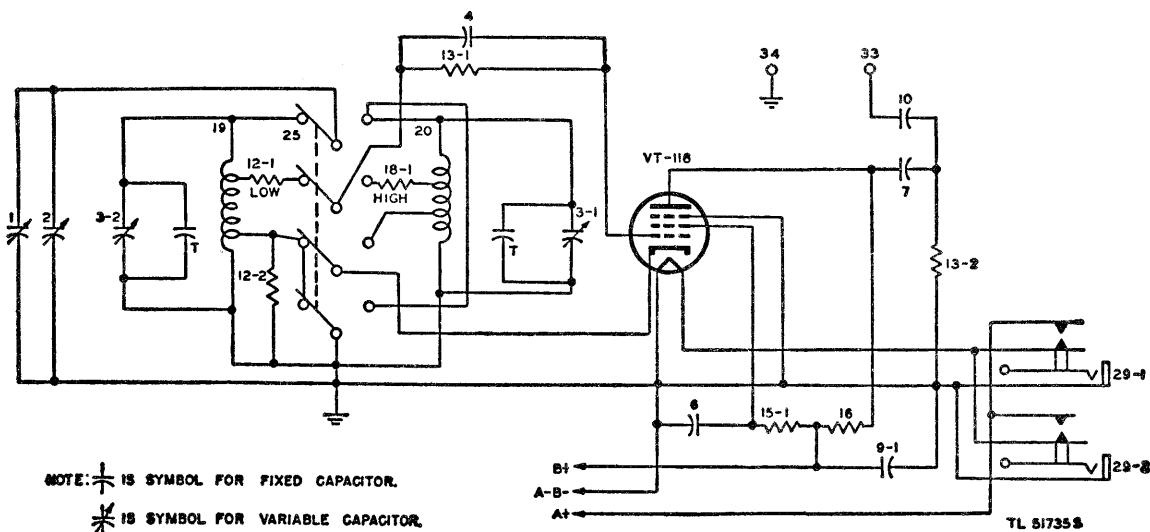
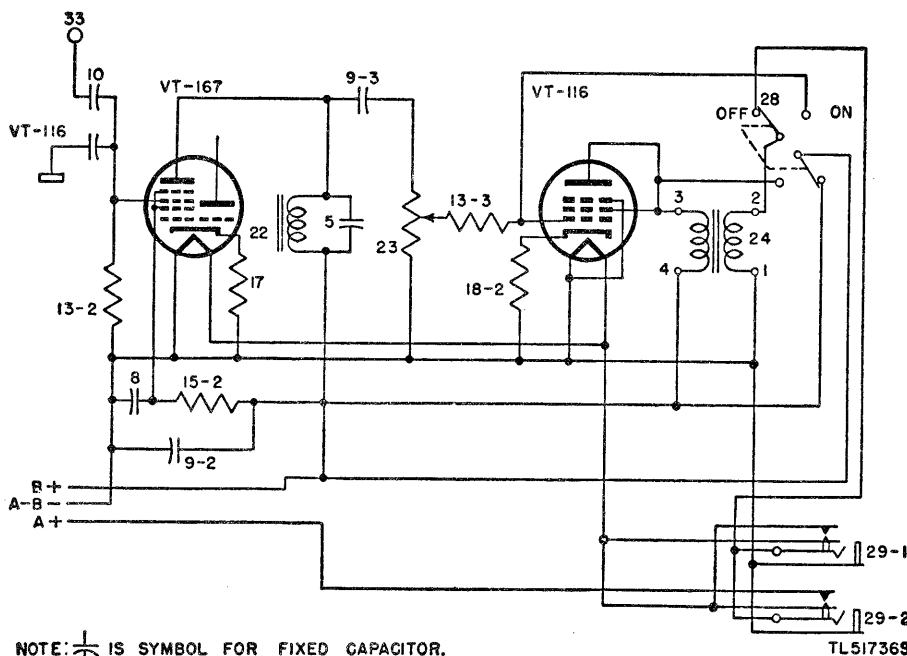
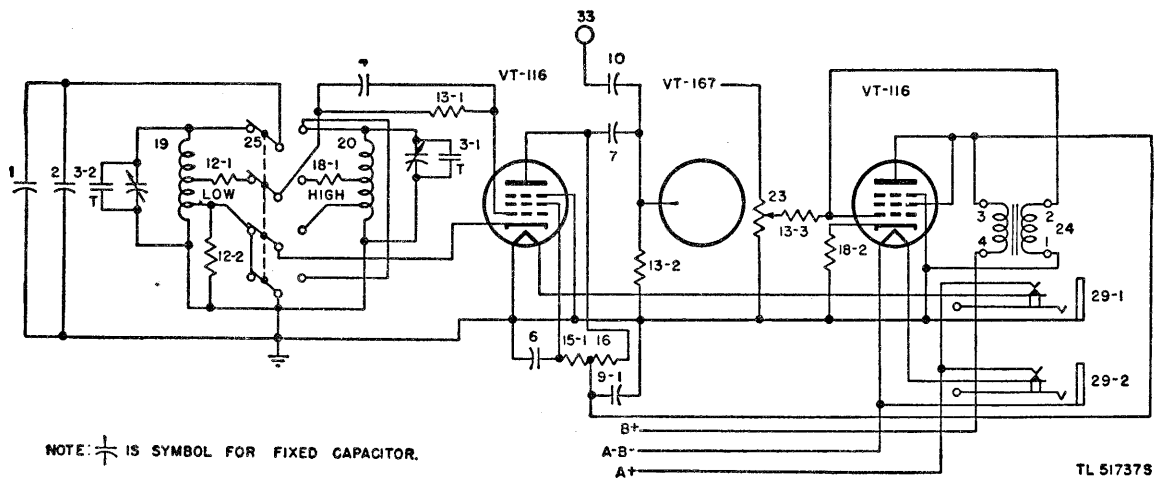

Figure 106. Frequency Meter BC-221-AN, functional diagram, variable frequency oscillator circuit.
Figure 107. Frequency Meter BC-221-AN, functional diagram, detector and audio-amplifier circuits.
Figure 108. Frequency Meter BC-221-AN, functional diagram, variable frequency oscillator and audio-amplifier circuits.
Tube VT-116 (6SJ7) is used in an electron-coupled circuit as a variable frequency oscillator. (See fig. 106.)
a. COILS. The two inductors, 19 and 20, in the tuned circuits are entirely inclosed in individual ceramic containers to prevent mechanical injury, and to minimize the influence of changing atmospheric conditions on the stability of the meter. (See fig. 106.) The active terminals of these coils are connected across the terminals of the main tuning capacitor 1 by means of the band selector (FREQ. BAND LOW-HIGH) switch 25. Each coil and the tuning capacitor, together with other
It has been stated that the triode section of Tube JAN-6K8 (VT-167) is used in the crystal-oscillator circuit. The remaining hexode section of this tube, with the No. 1 grid tied to the control grid of the triode section, is used as a high-gain screen grid detector. Hexode grid No. 3 acts as the control grid. The joint action of grids Nos. 1 and 3 produces electron coupling of the signals on the two grids. (See fig. 107.) Resistor 13-2, part 14-2 in the early model of Frequency Meter BC-221-B, is the detector tube grid leak. Resistor 15-2 supplies voltage to the screen grid of Tube JAN-6K8 (VT-167). Capacitor 8 bypasses the screen grid to ground. Capacitor 9-2 is a bypass capacitor across the plate voltage. The r-f voltage developed across load resistor 16 in the plate output circuit of the variable frequency oscillator is coupled to the No. 3 grid of this detector through small fixed capacitor 7. Antenna connection 33 is also coupled to the No. 3 grid through coupling capacitor 10. When operation switch 26 is at **CHECK**, the detector mixes the variable frequency oscillator output with the fundamental and harmonics of the crystal oscillator. When the operation switch is at **OPER**, the detector mixes the variable frequency oscillator output with the radio transmitter frequency to be measured. By reference to figures 106 and 107, it can be seen that antenna connection 33 is also coupled to the variable frequency oscillator output through capacitors 10 and 7 in series. Thus antenna connection 33 acts as a detector input terminal for the measurement of frequencies of external origin and as a variable frequency oscillator output terminal for use in calibrating receivers. When the unit is used for calibration of receivers, a minimum of 2,000 microvolts of r-f energy will be available between the antenna terminal and ground (the chassis) at any frequency within the calibrated range.
A functional diagram of the modulator and variable frequency oscillator circuits, together with the connection of the variable frequency oscillator to the detector tube is shown in figure 108. The audio oscillator-modulator unit provides a source of a-f voltage for modulating the r-f output signal from the variable frequency oscillator. When MODULATION switch 28 (fig. 107) is at ON the